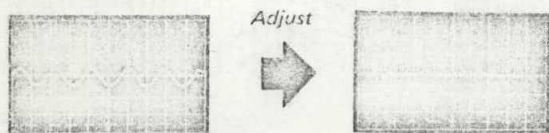

Fig. 3-6. Fm discriminator alignment output response
- If the discriminator transformer IFT102 (See Fig. 3-13) is not aligned correctly, 400 Hz ripple will be observed as shown in Fig. 3-6.
- Turn the secondary side core (green) of discriminator transformer IFT102 (See Fig. 3-13) with an alignment tool to obtain a minimum indication on the oscilloscope as shown in Fig. 3-6.